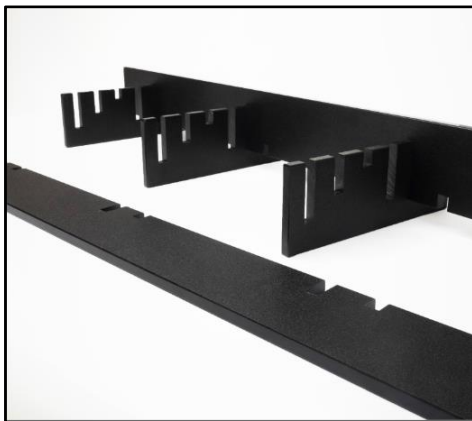

Figure 1
- Determine the appropriate slot-to-slot alignment between the long rails and cross members to fill the gap between the top of the air beam and the bottom of the load. Figure 1 illustrates how the pieces are mated together.